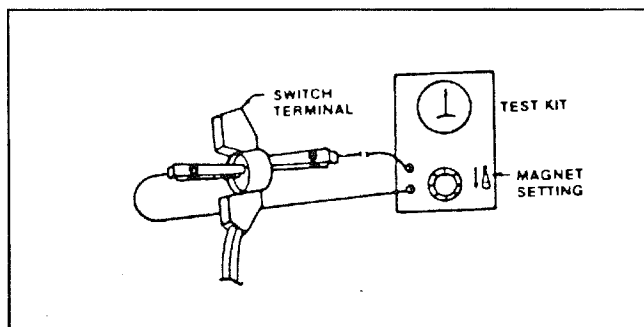

Fig. 3
- B. With Test Kit on "Magnet" setting and dial set for maximum amperage, check for switch closure and continuity through the switch by touching clips to opposite switch terminal contacts as shown in Fig. 3.